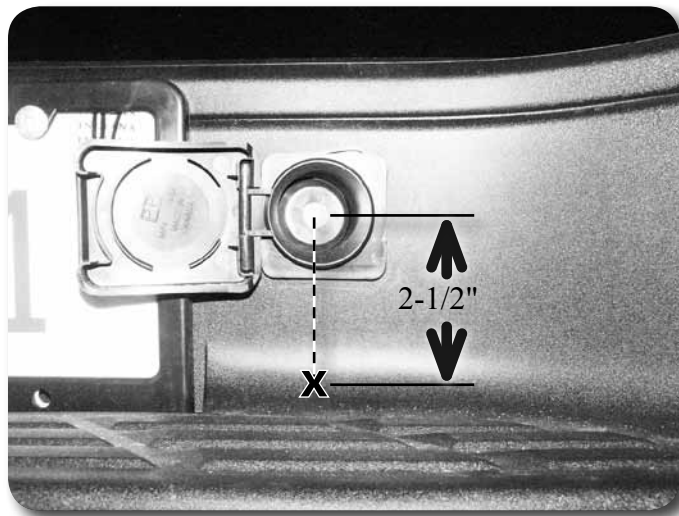
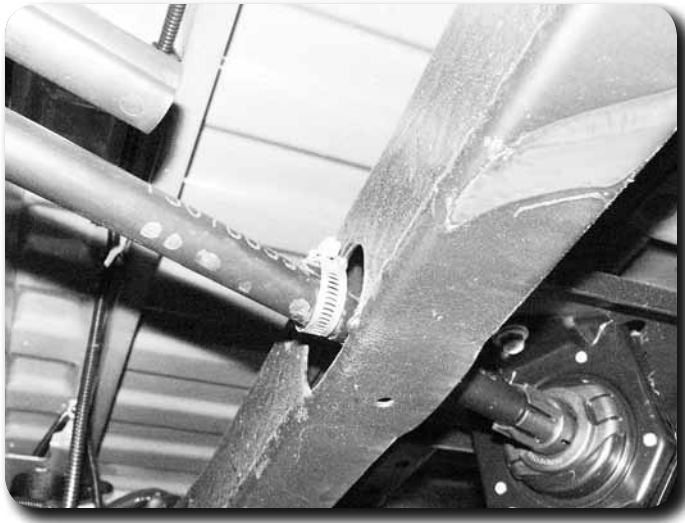

Figure 37
Figure 38
20. Bumper Modification for Spare Tire Carrier: Measure down from the center of the existing spare tire crank hole 2-1/2" and mark **Figure 37**. Using a 1" hole saw, cut a hole in the vertical face of the bumper at the mark. The hole will go through plastic and a section of sheet metal. Clean the burrs from the edges of the hole. Attach the spare tire winch tube to the tab directly above it on the frame crossmember with the provided #12 hose clamp **Figure 38**. Secure the tube to the tab by tightening the clamp. Do not over-tighten, which will crush the tube.